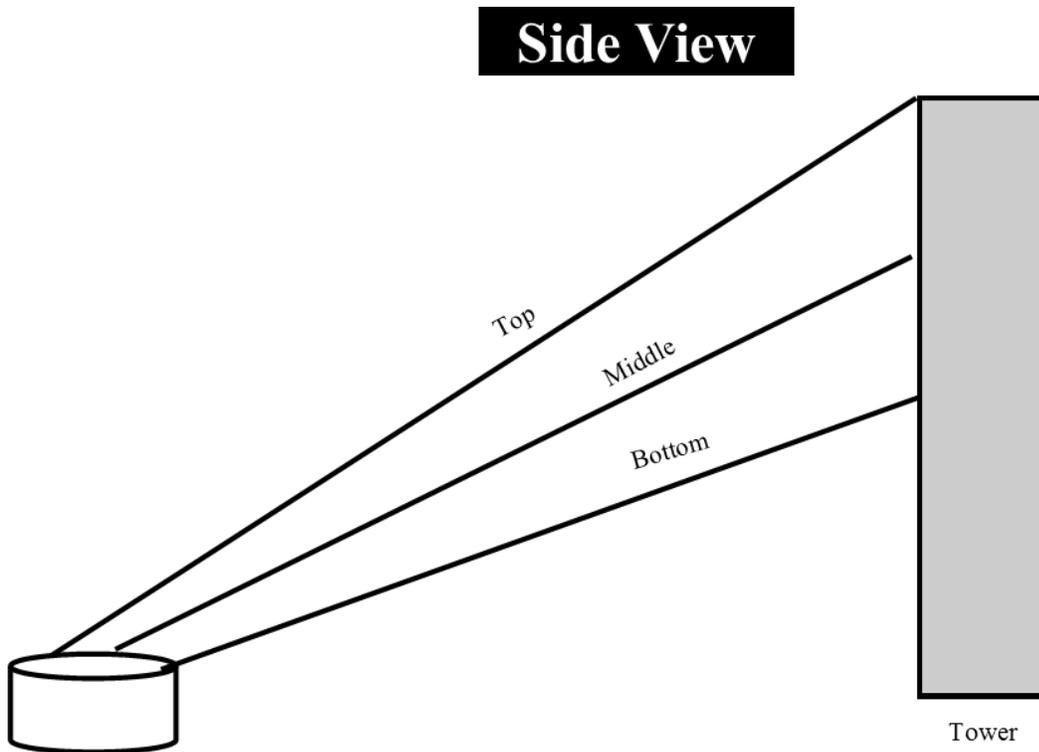

Figure 5. Side View of the forest canopy tower. This view shows the 3 distinct levels of cabling that are at each of the cable bases.
3. Once each person is positioned at the correct cable base, they should see three cables, one at the bottom, middle, and top. Begin at the bottom cable and work your way up together. (Figure 5)